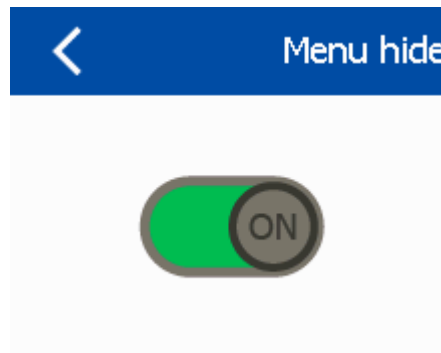

Fig. 79: Menu hide
The 'Menu hide' screen (Fig. 79) allows you to choose whether the main menu button on the Start screen (§ 4.2 'Start screen functions' on page 74) should be shown or hidden. If you choose to hide the main menu button, the main menu cannot be accessed from the Start screen. No main menu functions will be available then.
- ⇒ The 'Menu hide' screen (Fig. 79) displays.
3. ▶ Click on the green button (Fig. 79).